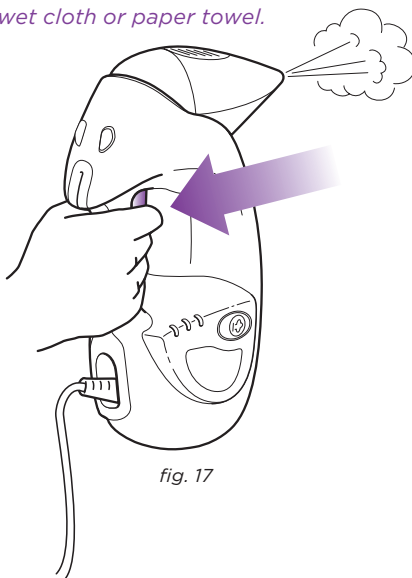

fig. 17
- 3 Then press and hold the steam trigger button to start steaming. While the steam trigger button is pressed and held down, the **ON/STANDBY** button will be solid blue. When released, the **ON/STANDBY** button will return to flashing blue. (fig. 17)